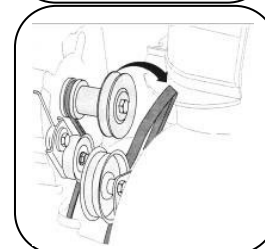

Figure 16
3. Roll the auger belt off the engine pulley. See Figure 16.